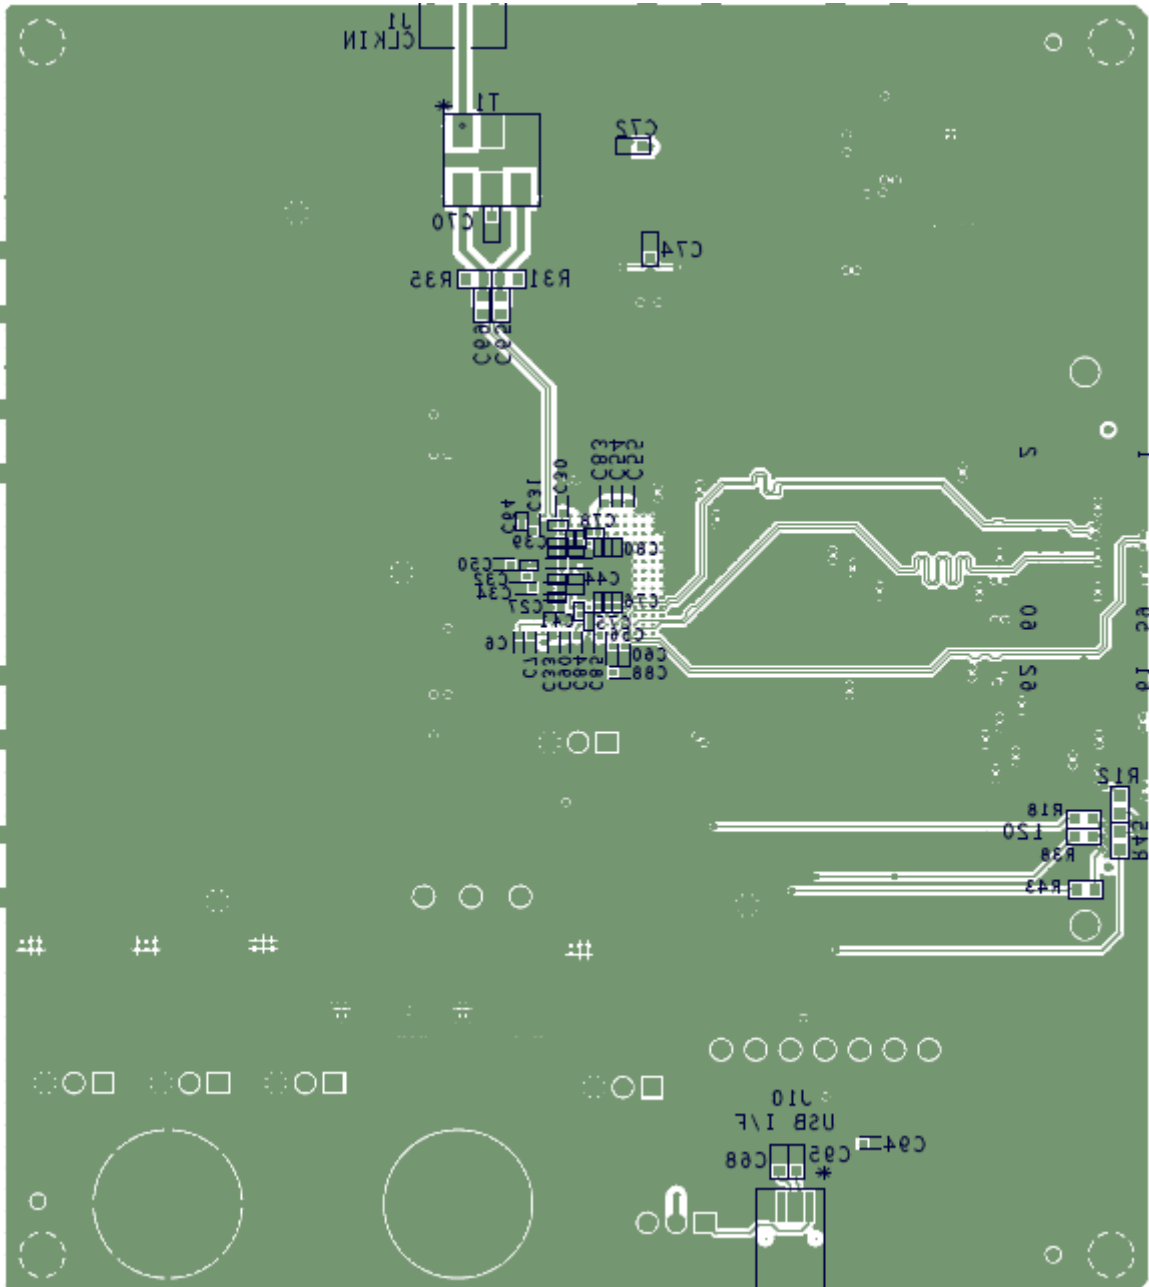

图 66. Bottom Layer
- In the device pinout, the sampling clock is located on a side perpendicular to the analog inputs in order to minimize coupling between them. This configuration is also maintained on the reference layout of Figure 66 as much as possible.